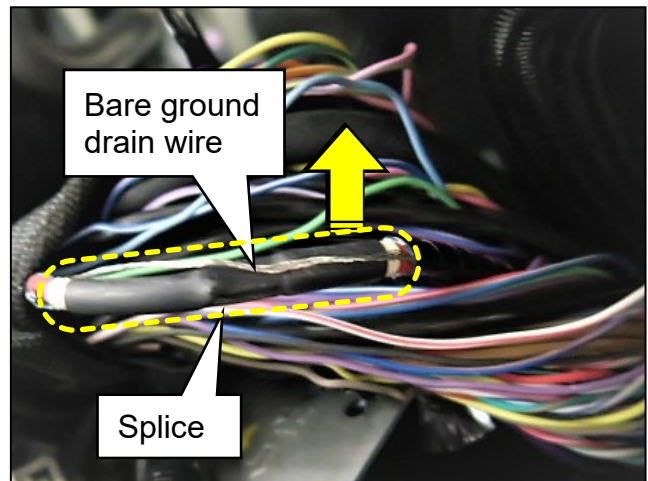

Figure 20
19. Separate the bare ground drain wire from the splice (Figure 20).